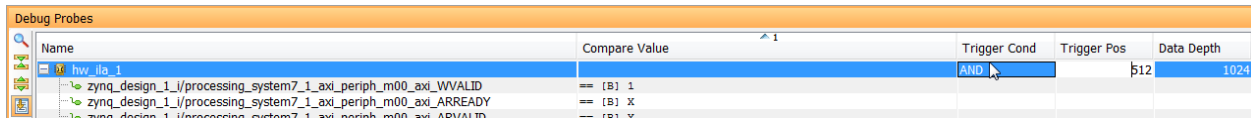

Figure 72: Change Debug Probe Settings
- Change the trigger position to the middle of the 1024 sample window by setting the **Trigger Pos** for the hw_ila_1 core in the Debug Probes window to 512 (Figure 72).